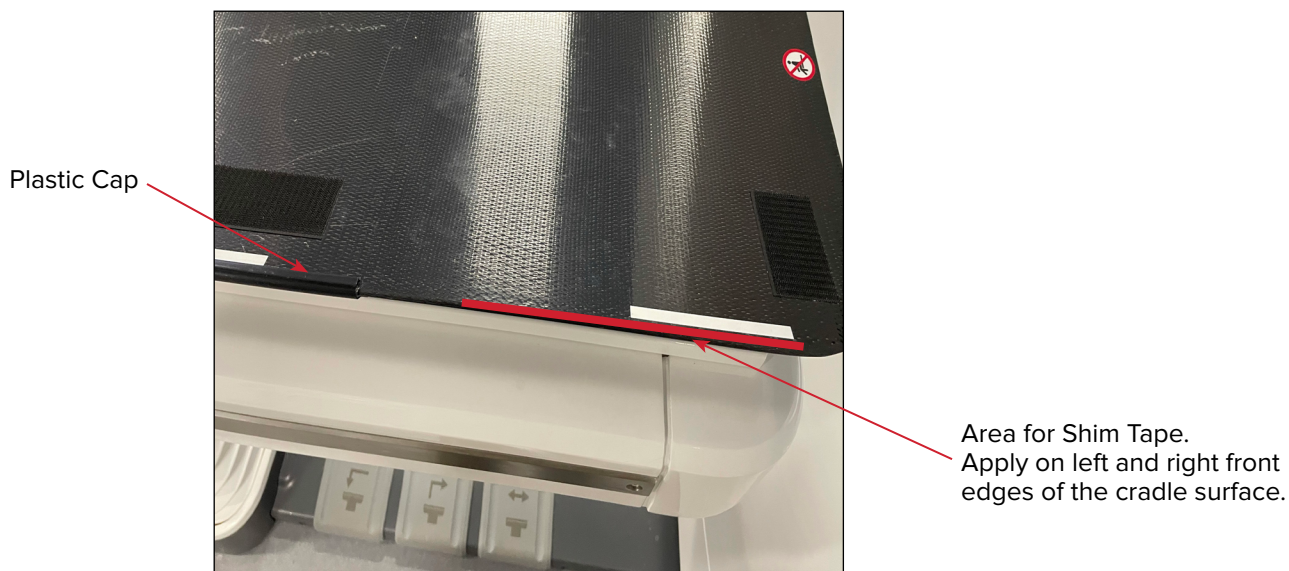

Fig. 38
1. Apply the Shim Tape to the left and right front edges of the cradle surface as needed, to compensate for the added height of the plastic cap (Fig. 38).